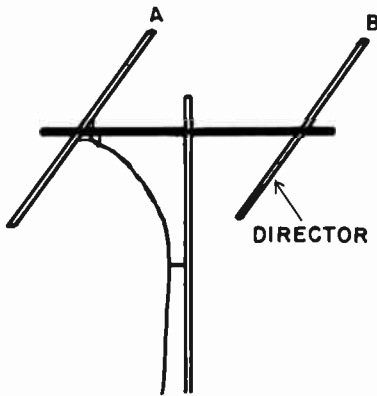

FIG. 17-15. A 2-ELEMENT ANTENNA.
**DIRECTIVE ANTENNAS USING PARASITIC ELEMENTS.** Fig. 17-15 illustrates a two-element antenna. Element A is an ordinary horizontal half-wave dipole. It operates in the manner previously described. Power is fed to its center from a transmitter. Element B is approximately the same size as A. However, it is not electrically connected to anything. We refer to it as a parasitic element. As current from the transmitter flows in dipole element A, an electromagnetic field is radiated from it. The field induces a